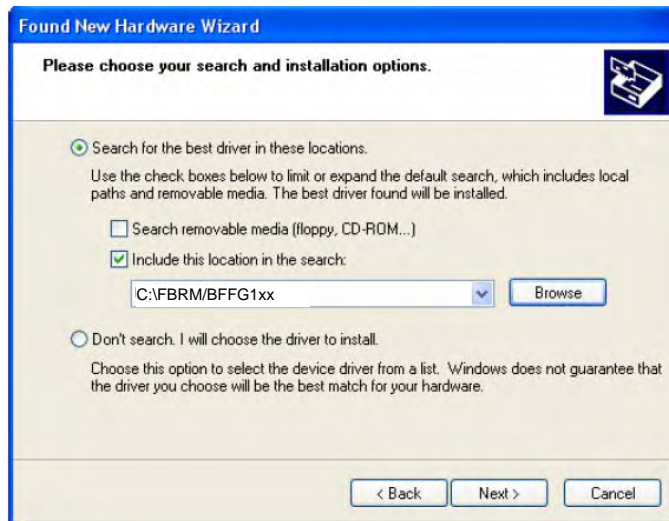

Figure 20: Driver Location
7.	Use the BROWSE button to locate the USB driver, as shown in Figure 20.